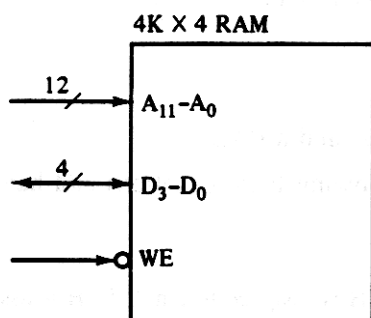

Figure 6.40 $4K \times 4$ RAM module for Problem 6.20.
- 6.20. Realize the $4K \times 4$ RAM module of Fig. 6.40 by using four $1K \times 4$ RAMs, as shown in Fig. 6.23, and a 4-to-2 decoder.